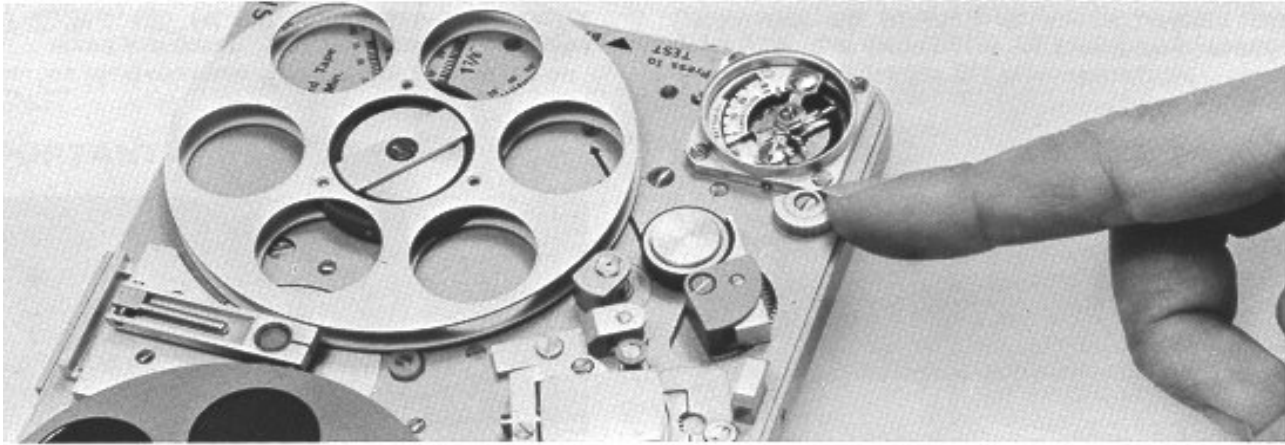

Fig. 4
This locking mechanism (10) blocks the control knob in the OFF position to avoid inadvertent functioning of the recorder during transportation (Fig. 4). If the main control lever (14) cannot be pressed, then verify the position of the lock.